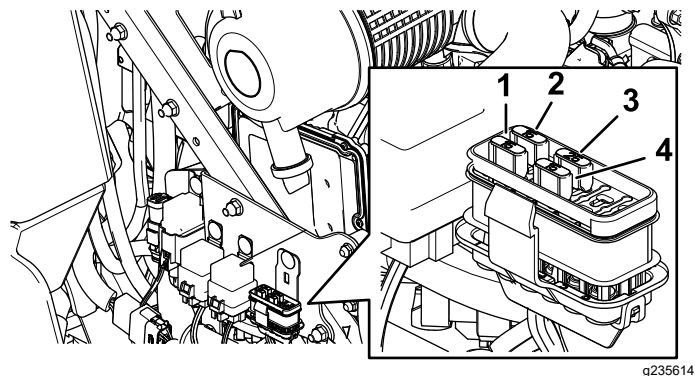

Figure 45
3. Install a new fuse (Figure 45).